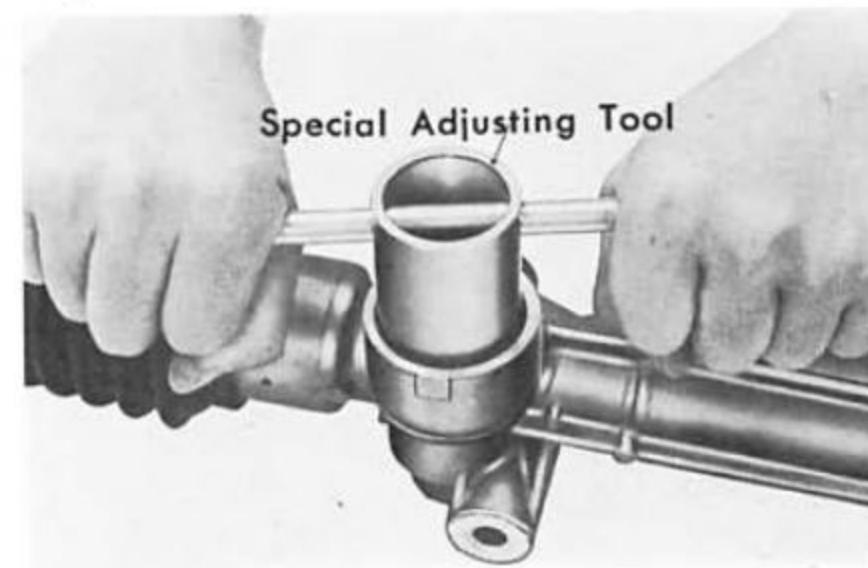

Fig. 10B-8
5. Remove the self-locking nut and disassemble the joint flange from the steering pinion (Fig. 10B-6). Torque to 4.6kg-m (33.3ft-lbs) during assembly.